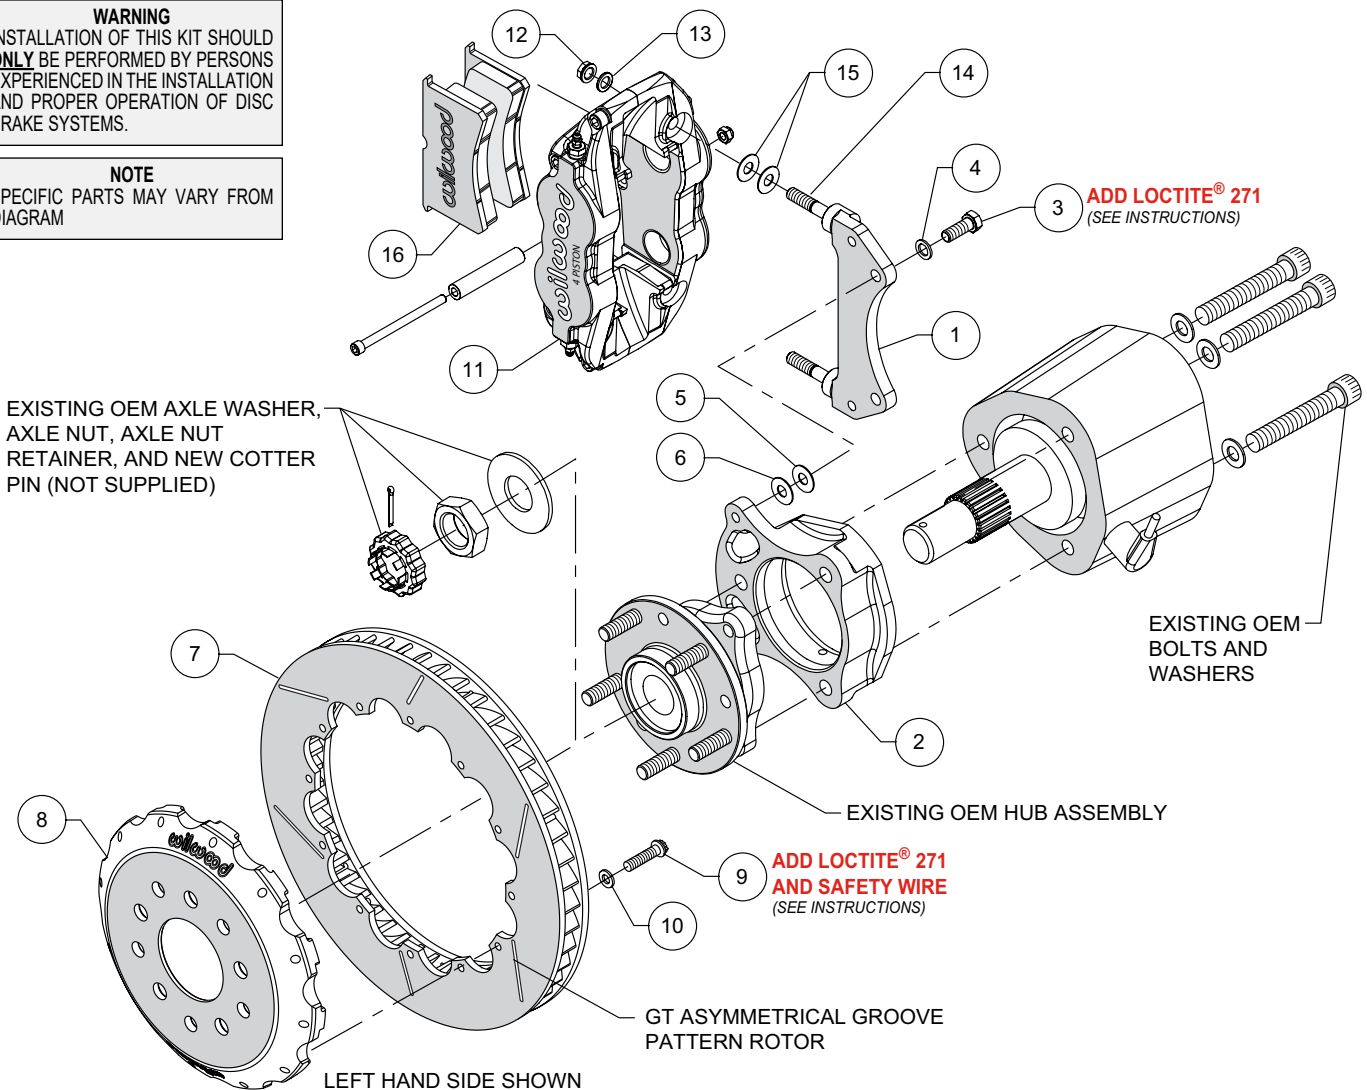
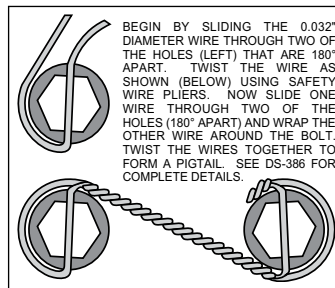

Figure 1. Typical Installation Configuration
Figure 3. Safety Wire Diagram
Assembly Instructions (numbers in parenthesis refer to the parts list and Figure 1 on the preceding pages):
- The caliper mount bracket (1) should initially be installed with clean, dry threads on the mounting bolts. Orient the bracket as show in Figure 1, and install onto the axle hub bracket (2) using bolts (3) and washers (4), Photo 1. Initially place one .035" thick shim (5) on each bolt between the caliper bracket and the hub bracket, Figure 1. Later, after the caliper alignment has been checked, the mount bolts will be secured using red *Loctite*® 271.
- Orient the caliper bracket assembly (1 and 2) as shown in Figure 1 and Photo 2. **NOTE:** *The bracket assembly must fit squarely against the face of the upright.* Inspect for interference from casting irregularities, machining ridges, burrs, etc.
- Orient the rotor (7) and the hat (8) as shown in Figure 1 and Photo 4. Attach rotor to hat using bolts (9) and washers (10). Apply red *Loctite*® 271 to the bolt threads and torque to 155 **in-lb** using a criss-cross pattern. Safety wire bolts using standard 0.032 inch diameter stainless steel safety wire as shown in Figure 3. Please refer to Wilwood's data sheet DS-386 (available at www.wilwood.com/Pdf/DataSheets/ds386.pdf) for complete safety wire installation instructions.
- Initially place two .035" thick shims (15) on each stud (14) as shown in Figure 1 and Photo 5. Mount the caliper (11) onto the bracket (1) using lock nuts (12) and washers (13), Figure 1. Temporarily tighten the lock nuts and view the rotor through the top opening of the caliper. The rotor should be centered in the caliper, Photo 6. If not, adjust by adding or subtracting shims (5 and/or 6) between the radial bracket (1) and the axle hub bracket (2). Always use the same amount of shims on each of the two mounting bolts. Once the caliper alignment is correct, remove the bracket mounting bolts (3) one at a time, apply red *Loctite*® 271 to the threads, and torque bolts to 35 ft-lb.